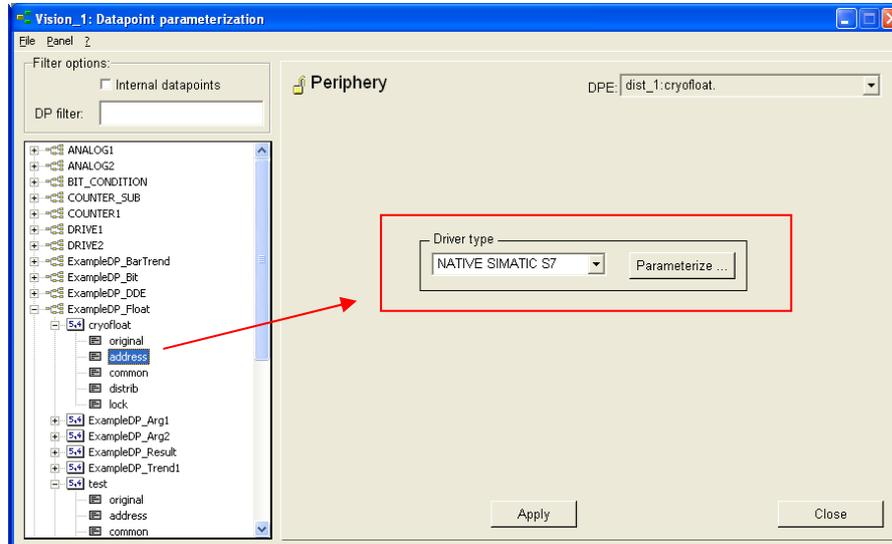

Figure 8 - Native simatic S7 address configuration selection
- (3) Come back to the PARA module and insert an *address config* to the DPE you have created previously, then select "*Native Simatic S7*" to set up all the needed parameters (Figure 8). Click on the Parameterize button.